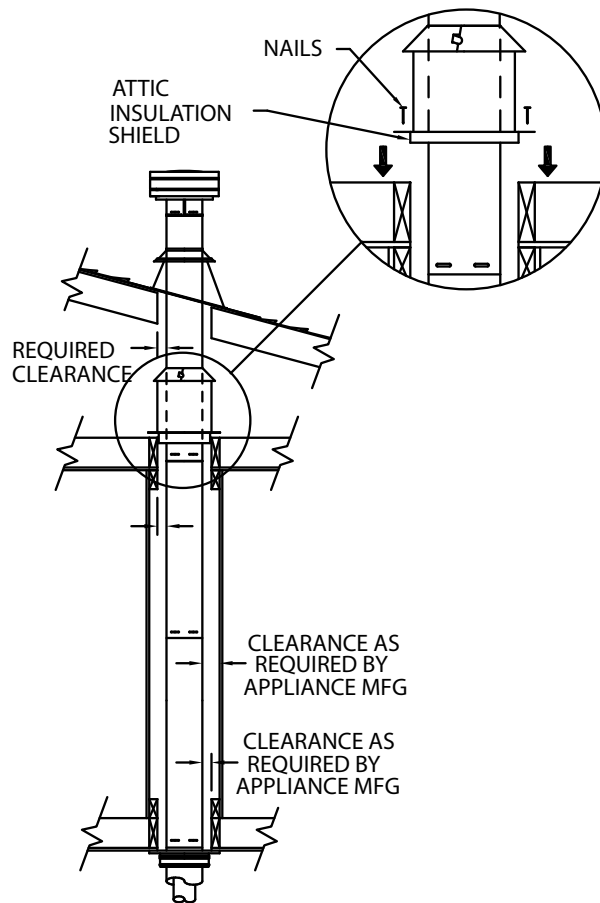

Figure 19
(1) For multi-story vertical installations, a Ceiling Firestop is required at the second floor, and any subsequent floors (Fig. 19). Refer to Table 1, page 8. Cut and frame a square opening for installation of the Ceiling Firestop.
(2) If Vent passes through any occupied areas above the first floor, including closets and storage spaces, it must be enclosed. The enclosure may be framed and sheetrocked with standard construction materials, but required clearances to combustibles must be maintained. Consult the appliance manufacturer's installation instructions for the minimum allowable clearance between the outside of
(3) If venting system passes through an attic space the Attic Insulation Shield or a chase enclosure must be installed to prevent contact between Pipe Sections and the insulation or other debris. For the Attic Insulation Shield, nail the base to floor of attic and adjust shield for appropriate insulation level, then attach the collar at the top of assembly (**Fig. 19**). For a chase enclosure, it may be constructed out of sheetrock or similar building materials and framed around the support box or the pipe, maintaining the clearance to combustibles as required by the appliance manufacturer. For vaulted ceilings a chase enclosure must be constructed as the Attic Insulation Shield can not be installed.